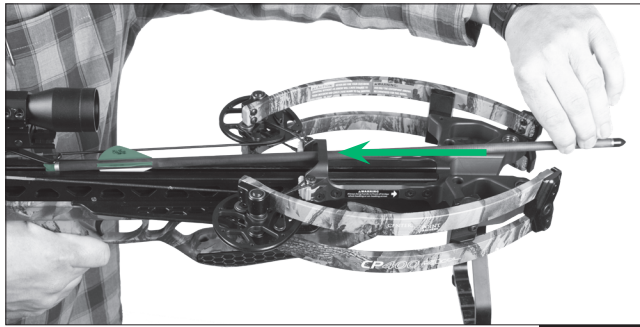

FIGURE 22
5. Grip the arrow near its point on the opposite end to the fletching. The crossbow may be loaded by keeping all hands and body parts out of the path of the bowstring and in the safe loading area (Fig. 22). Keep your hands, fingers and all other body parts out of the travel path of the string and cables at all times. The crossbow is designed so that the user never needs to place a body part into the path of the crossbow string. Failure to follow this warning could lead to serious injury or death.
6. Slide the CP400 Select arrow back to the trigger assembly, under the arrow retention spring, until the 1/2 moon nock rests fully on the string (Fig. 22).